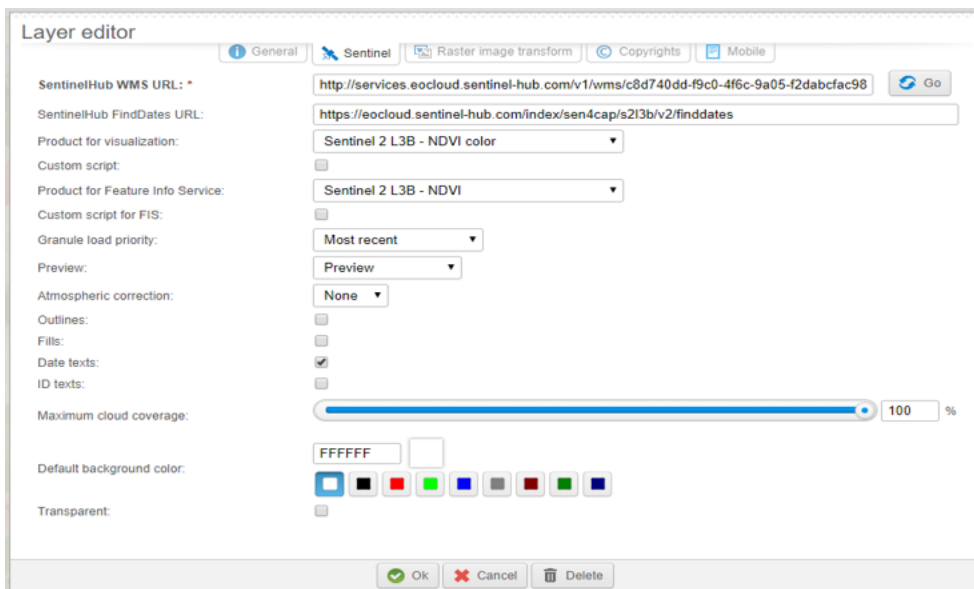

Figure 6-8. Settings for the Sentinel 2 L3A – NDVI layer
- **Sentinel-2 L3A – NDVI** (Figure 6-8)